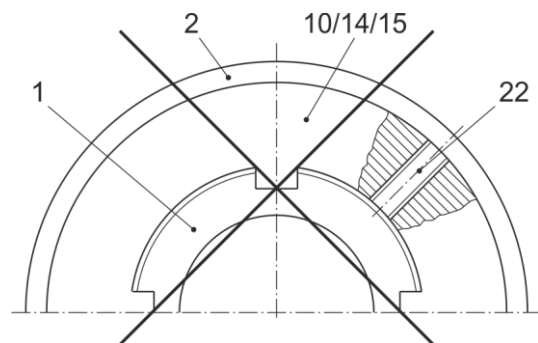
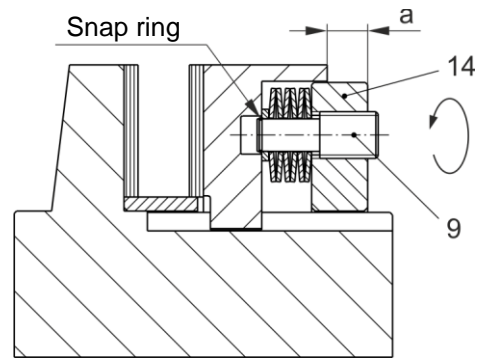
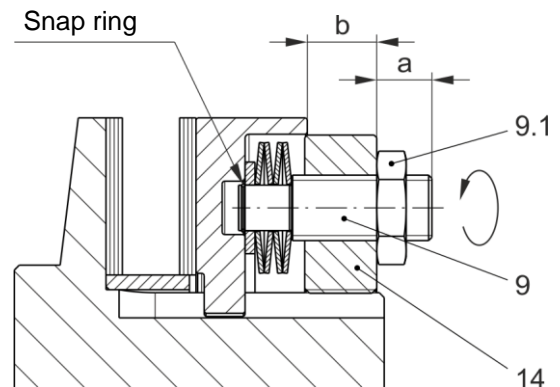

Fig. 22
Fig. 23
Fig. 25 Cup spring supporting bolt (9) with counter nut (9.1)
Clamping onto the thread as shown in Fig. 22 is not permitted.
On slip hubs Sizes 6 – 12, the distance dimension "a" indicates the size of the adjusted slipping torque (Figs. 23 and 25).
### Torque adjustment (Figs. 23 and 24)
1. Unscrew the set screw (22) from the adjusting nut (14).
2. Adjust the adjusting nut (14) including the relaxed cup spring supporting bolts (the cup spring supporting bolts (9) protrude from the adjusting nut (14)) to the required dimension "a" using a face wrench. Here, the face wrench pilots must be inserted into two hexagon sockets of the cup spring supporting bolts (9) in order to turn the adjusting nut (14).
Do not continue to turn the cup spring supporting bolts (9) against the snap ring resistance (Fig. 23).
3. The adjusting nut (14) must be secured by screwing the radially arranged set screw (22) into one of the 4 hub keyways.
Clamping onto the thread as shown in Fig. 22 is not permitted. If necessary, the adjusting nut (14) may have to be turned.
### Torque adjustment for countered cup spring supporting bolts (Fig. 25)
2. Adjust the adjusting nut (14) including the relaxed cup spring supporting bolts (the cup spring supporting bolts (9) protrude from the adjusting nut (14)) to the dimension "b" using a face wrench. Here, the face wrench pilots must be inserted into two hexagon sockets of the cup spring supporting bolts (9) in order to turn the adjusting nut (14).
Do not continue to turn the cup spring supporting bolts (9) against the snap ring resistance (Fig. 25).
4. Then the cup spring supporting bolts (9) are turned in evenly, in steps of approx. 1/4 turns until dimension "a" or the required torque is reached.
5. Counter the cup spring supporting bolts (9) with the hexagon nuts (9.1).